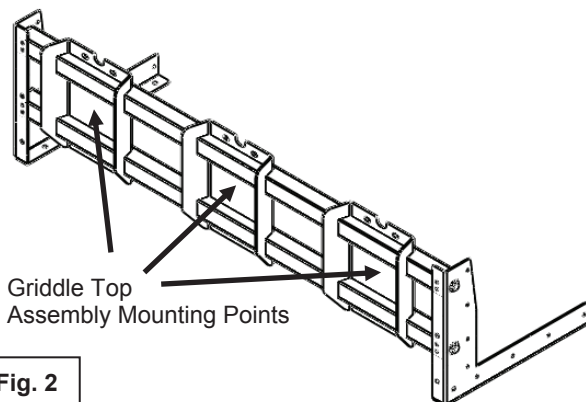

Fig. 2
2. The entire mounting bracket system should be assembled at this point as shown in Fig. 2 with bolts hand tightened only.